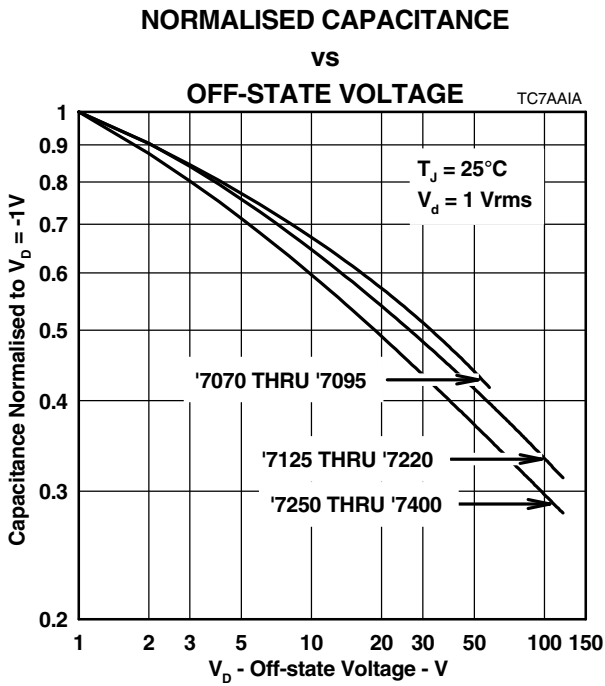
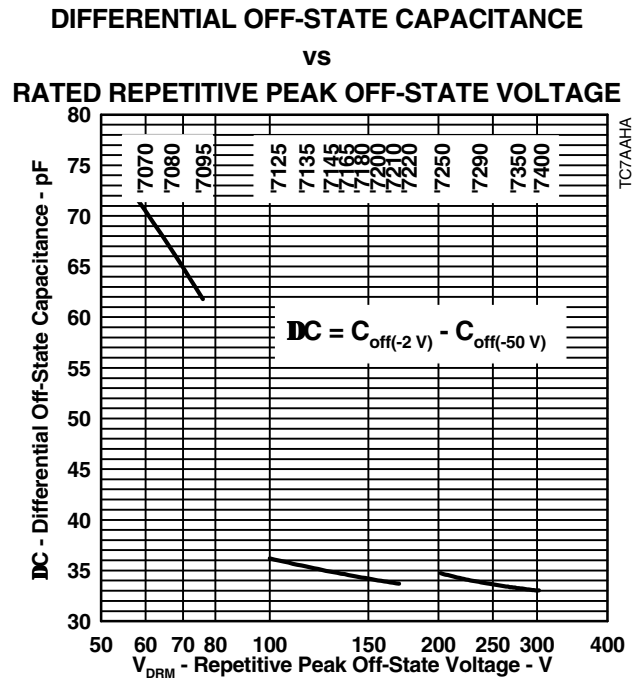

Figure 6.
Figure 7.
The protector characteristic off-state capacitance values are given for d.c. bias voltage, V_D , values of 0, -1 V, -2 V and -50 V. Where possible values are also given for -100 V. Values for other voltages may be calculated by multiplying the $V_D = 0$ capacitance value by the factor given in Figure 6. Up to 10 MHz the capacitance is essentially independent of frequency. Above 10 MHz the effective capacitance is strongly dependent on connection inductance. For example, a printed wiring (PW) trace of 10 cm could create a circuit resonance with the device capacitance in the region of 50 MHz. In many applications, the typical conductor bias voltages will be about -2 V and -50 V. Figure 7 shows the differential (line unbalance) capacitance caused by biasing one protector at -2 V and the other at -50 V.